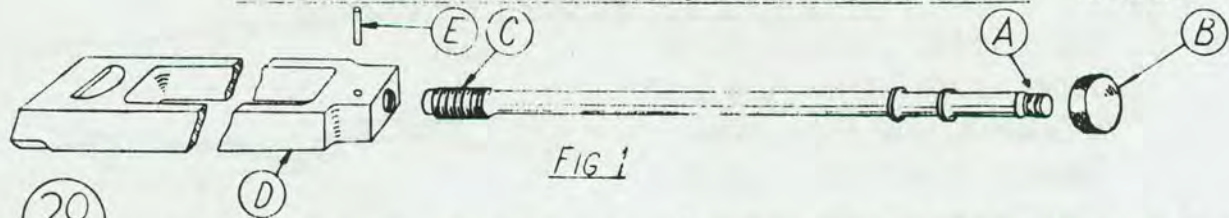

FIG 1
- (28) TRY PISTON (A), FIG 1, IN THE RING GAGE (B). OPEN END OF GAGE HAS 0.494" INCH DIAMETER. IF PISTON ENTERS GAGE, IT IS NOT SERVICEABLE. REPLACE WITH NEW PISTON.